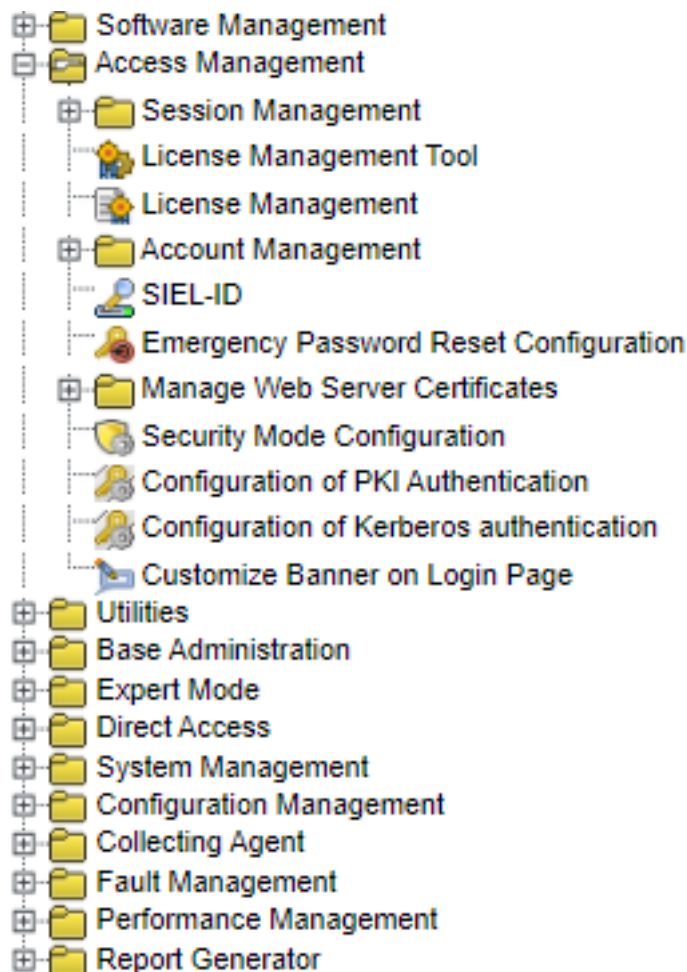

Figure 50: Starting License Management to Verify Server Licensing
- 2) Click OpenScape 4000 Administration (see Figure 50).